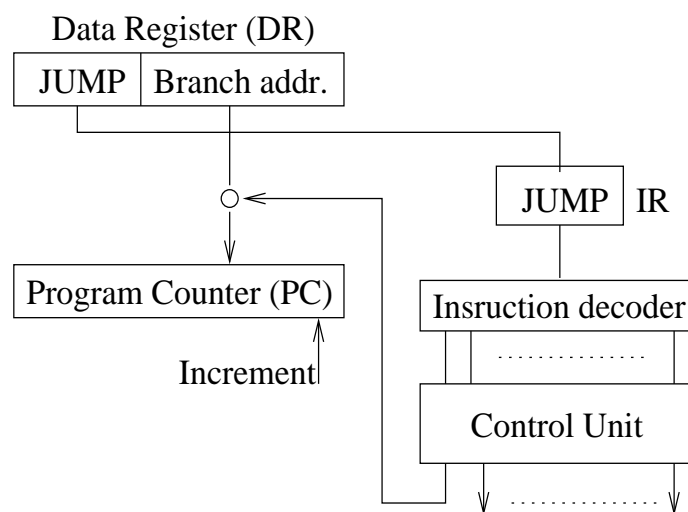

Figure 15: Branch control
Unconditional branch can be implemented by execution of register (DR) to register (PC) transfer micro-operation (Figure 15) -